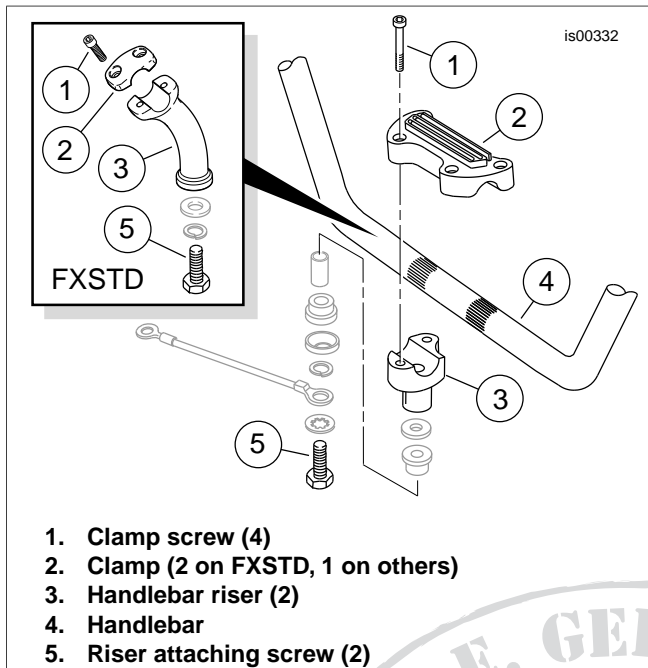

Figure 2. Handlebar Clamps and Risers
10. See Figure 2. Remove and discard the four hex socket head screws (1) that fasten the handlebar upper clamp (2) to the risers (3). Discard the clamp. Remove the handlebar (4) from the motorcycle.